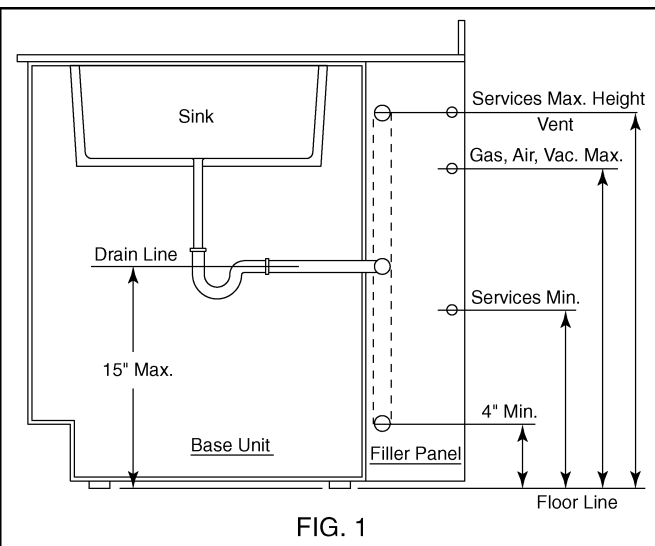

FIG. 1
**Note:** The following dimensions and Fig. 1 are recommendations only. Local Codes and building conditions may dictate different heights and locations.
(Refer to Fig. 1))